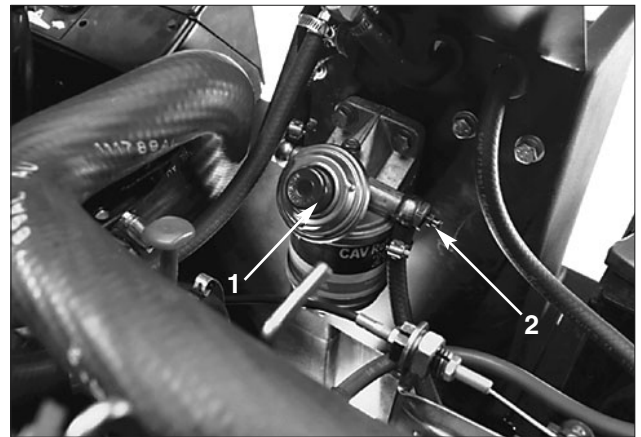

Figure 21
3. Loosen the fuel filter/water separator bleed screw (Fig. 21) a few turns. Pump the priming plunger until a steady stream of fuel comes out of the hole in the bleed screw. When fuel stops foaming, tighten the bleed screw during the down stroke of the priming plunger. Wipe up any spilled fuel.